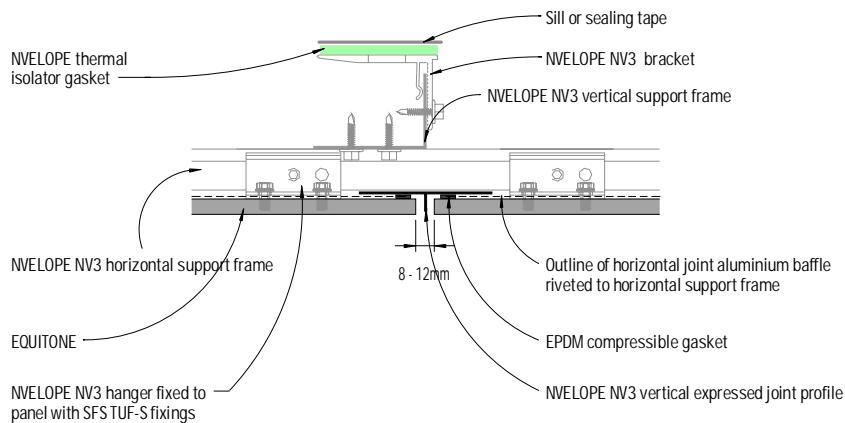
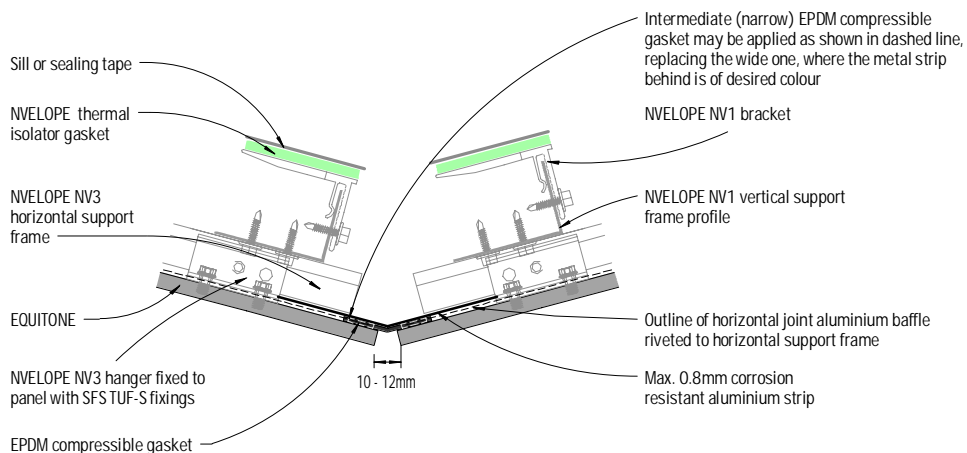

Figure 5: Vertical joint - Detail 1
Figure 6: Vertical joint - Detail 2
- 1) The deflection of NVELOPE NV3 vertical expressed joint profile (as included in Figure 5) and any aluminium strip located at the vertical joint (as included in Figure 6) shall be limited to an extent ensuring the seal along the vertical joint is maintained with respect to project wind loading.